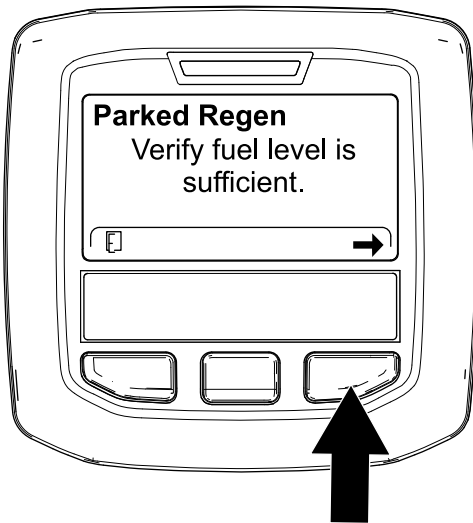

Figure 62
- At the VERIFY FUEL LEVEL screen, verify that you have 1/4 tank of fuel if you are performing the parked regeneration or 1/2 tank of fuel if you are performing the recovery regeneration, and press the right button to continue (Figure 62).